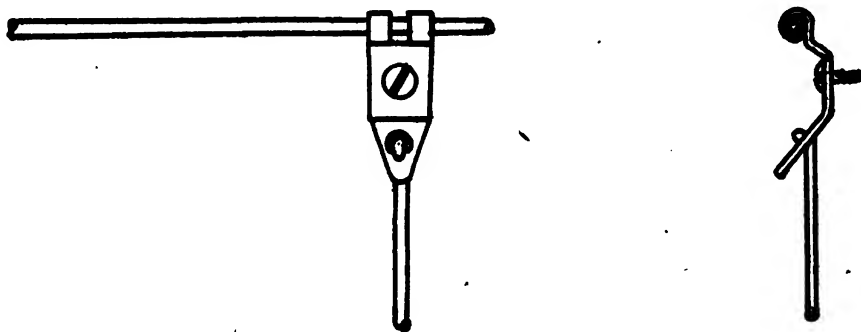

FIGURE 29.—Bus bar terminal.
*j.* Several types of bus bar terminal connections are in use. Figure 29 illustrates a terminal suitable for bus bar. This terminal has a double eyelet at one end and a single round eyelet at the opposite end. Both eyelets curve up for easy connections of the wire. The double eyelet terminal makes the best connection for mechanical and electrical security. The double eyelet allows more surface of the terminal to be in contact with the bus bar and has the advantage of a stronger soldered joint also. The wire is inserted straight through and solder applied from the top, the iron held below the terminal until the solder flows through.